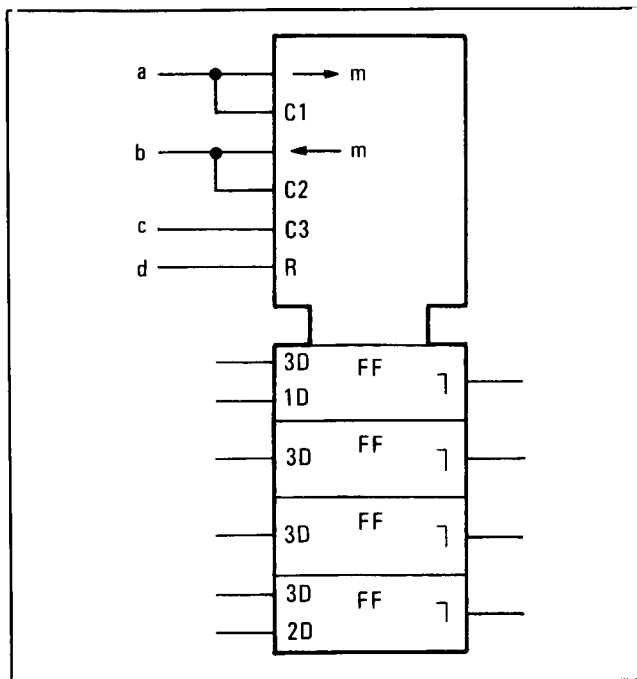

Figure 8-16. Shift Register
**Complex Device Symbology.** Figures 8-16 through 8-19 show how the basic symbols can be combined to illustrate behavior of fairly complex devices.